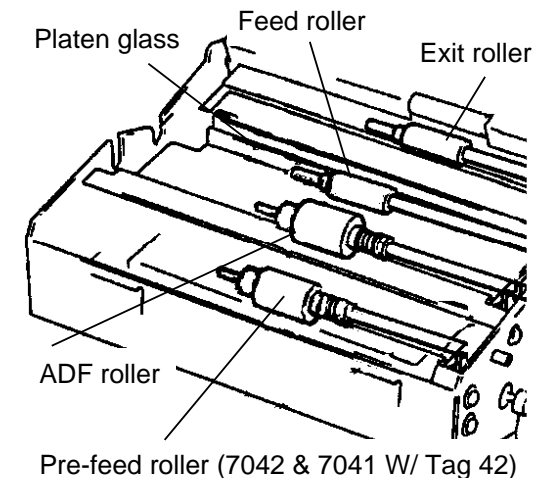

Figure 1. Scanner Area
- c. If required, use the lens and mirror cleaner to clean the platen glass (Figure 1).